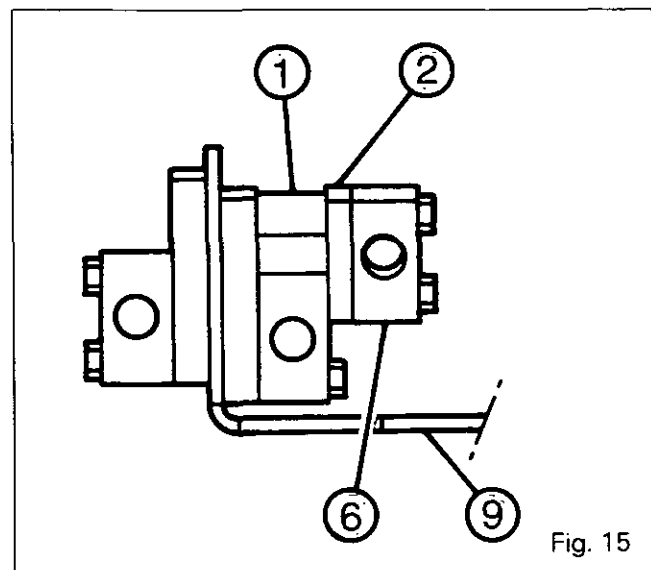

Fig. 15
1. Insert the cable into the slide at the back right-hand-side of the cab in the base (6).
Note: When the base (6) is displaced (floating position) assemble the spacer (1) and the plate (2) following Fig. 15.